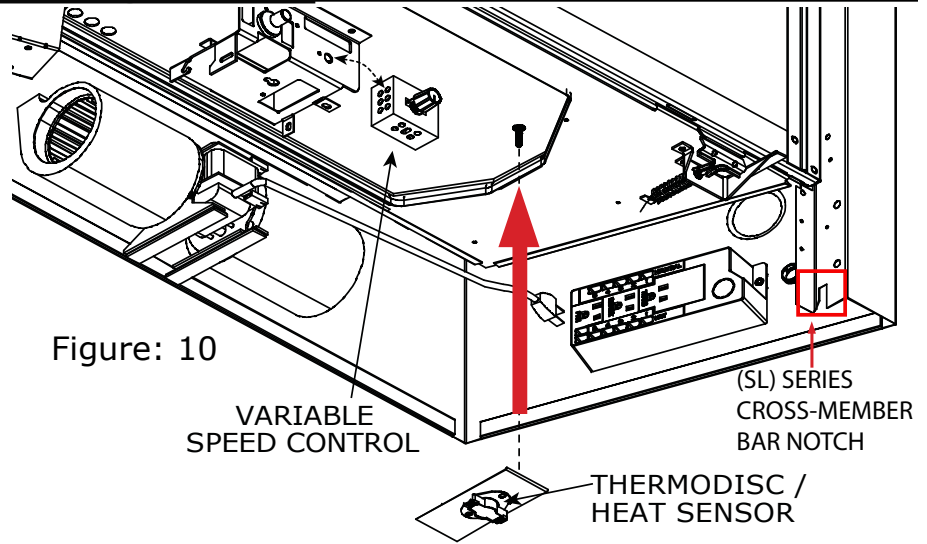

Figure: 10
- For "SL" Series, see (Figures: 10 & 20); a removable cross-member bar may be present.